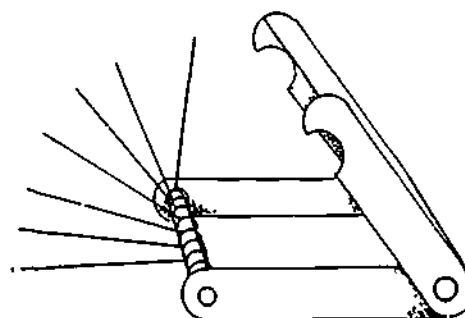

Figure 8-45.
**Cleaning Tip Openings** Tip cleaner or drill sets (Figure 8-45) are available and identified by